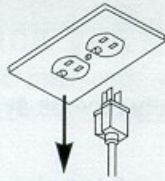

Figure 1-1
Step 1 • **UNPLUG** garage door opener. (Figure 1-1)